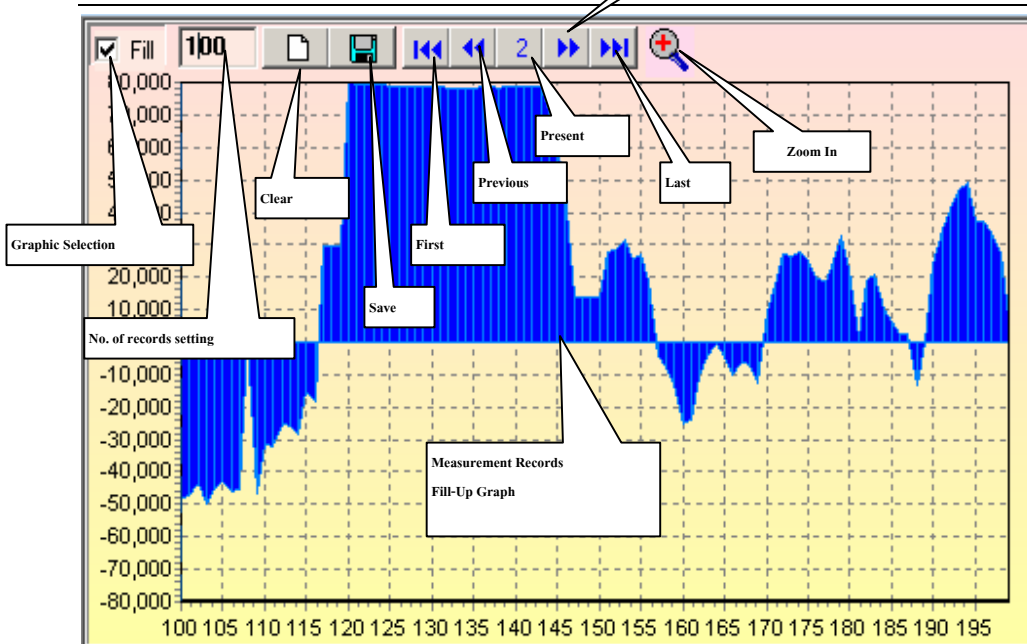

Figure 12
6.1 The sketch operation, such as the figure 12